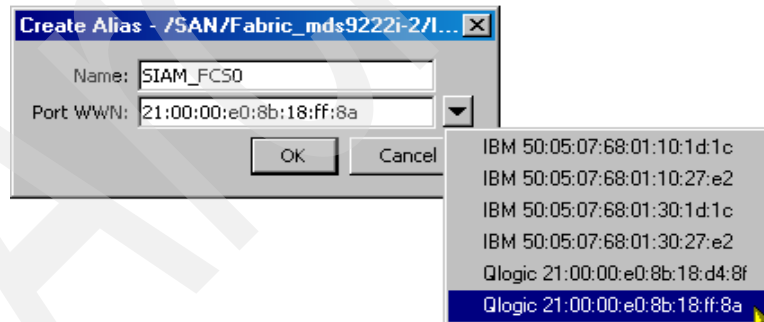

Figure 6-48 Creating alias based on WWPN
3. In the Create Alias window, name the alias and assign the WWPN (selected from the drop-down menu) and click **OK**, as shown in Figure 6-48.